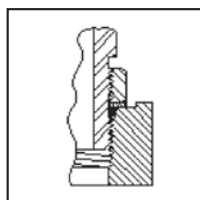

Fig. JA8
6. Maintain fitting orientation with backup wrench while tightening locknut to recommended torque listed in Table JA3. See Fig.JA8